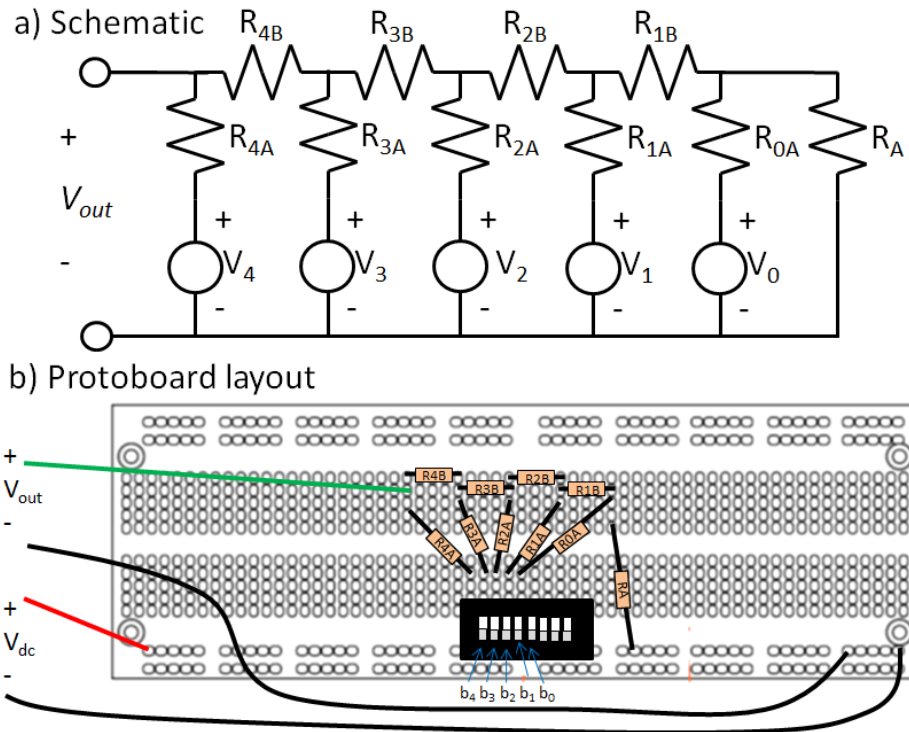

Fig. 3: Ladder DAC, schematic and protoboard
- (b) **Assemble the circuit**, as shown in Fig. 3. As in part 1, each switch output can be treated as a voltage source whose value is equal to  $V_k = b_k \cdot V_{dc}$  (where  $b_k$  is the  $k^{\text{th}}$  bit, and  $k$  can be 0, 1, 2, 3, or 4), that is, when the  $k^{\text{th}}$  bit  $b_k = 0$ ,  $V_k = 0$ , when  $b_k = 1$ ,  $V_k = V_{dc}$ .  $V_{dc}$  is provided externally (next step).